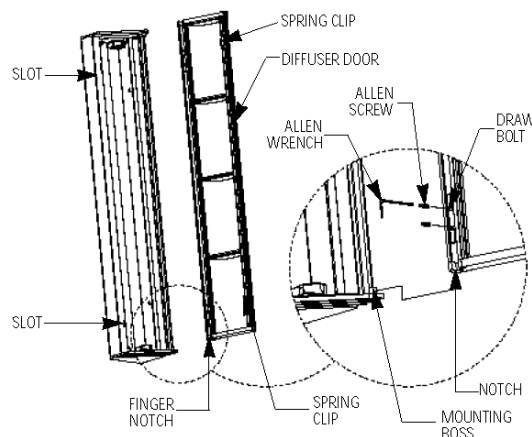

Fig. 3
1. Loosen two ALLEN SCREWS in each of the two DRAW BOLTS (use allen wrench provided). (Fig. 3)
Note: To open DIFFUSER DOOR for relamping; place finger into FINGER NOTCHES in each end of DIFFUSER DOOR and gently pull DIFFUSER DOOR away from front edge of FIXTURE HOUSING. (Fig. 3)